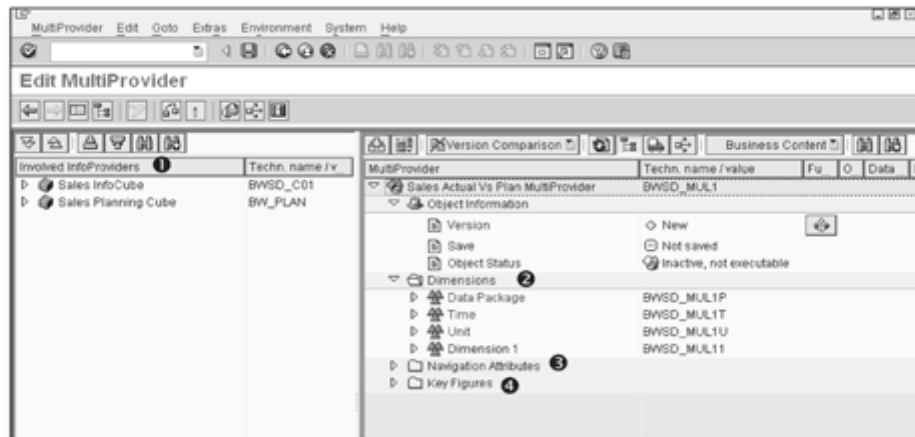

Figure 6.6 Edit MultiProvider Initial Screen
The system takes you to the Edit MultiProvider screen, as shown in Figure 6.6. The initial definition of MultiProvider BWSD_MUL1 is shown with included InfoCubes (BWSD_C01 and BW_PLAN) as shown in ❶ of Figure 6.6. Four default dimensions are shown in ❷ of Figure 6.6, they are: Data Package, Time, Unit, and Dimension 1. This screen also offers a section to include navigation attributes (❸) and key figures (❹).